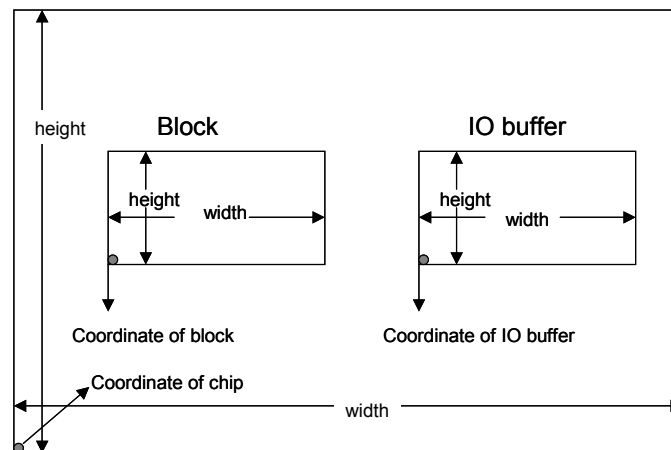

Figure 7. Definitions of width and height of chip, block and IO buffer.
12. The definitions of width (W) and height (H) of a chip, block or input/output buffer are shown in Figure 7.